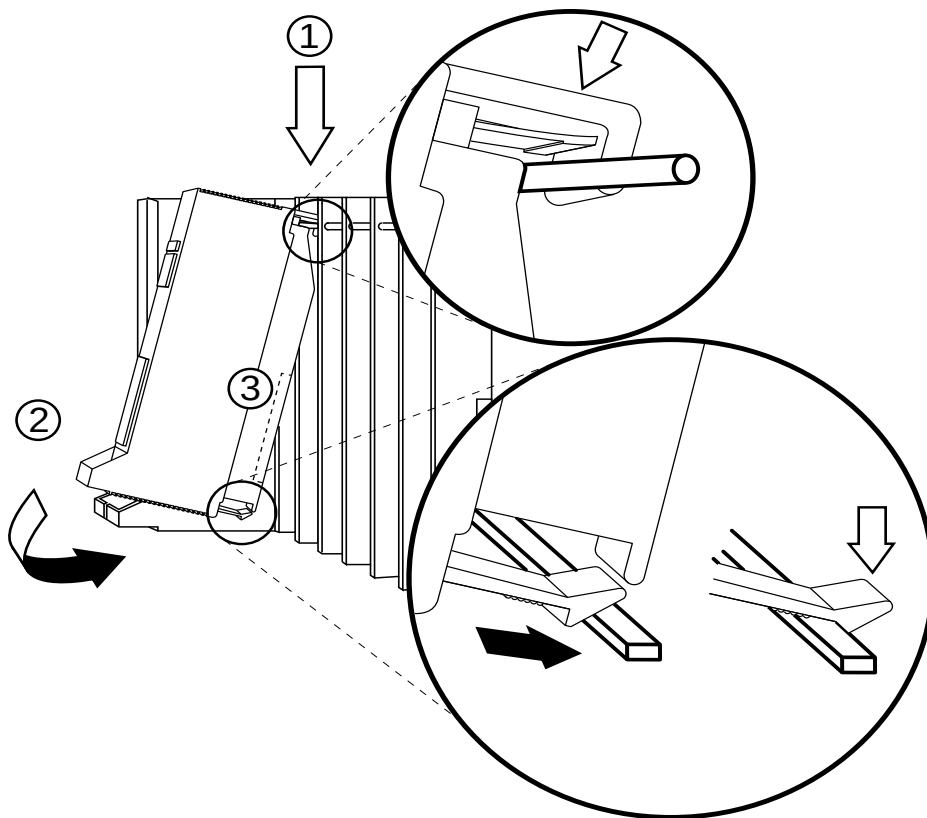

Figure 2-10. Installing the Processor into the Carrier
To install the processor in the carrier, follow the steps below. Refer to Figure 2-10.
To avoid damage, do not force the module. If the module does not insert easily, press the bottom rear locking tab, remove the module, and inspect the module and carrier for damage or obstruction. The bottom-rear locking tab is shown in Figure 2-10. This tab is used on all modules.
- ▶ 3. Lower the hook on top of the module onto the rod on the top of the carrier in the appropriate slot. See Figure 2-10.